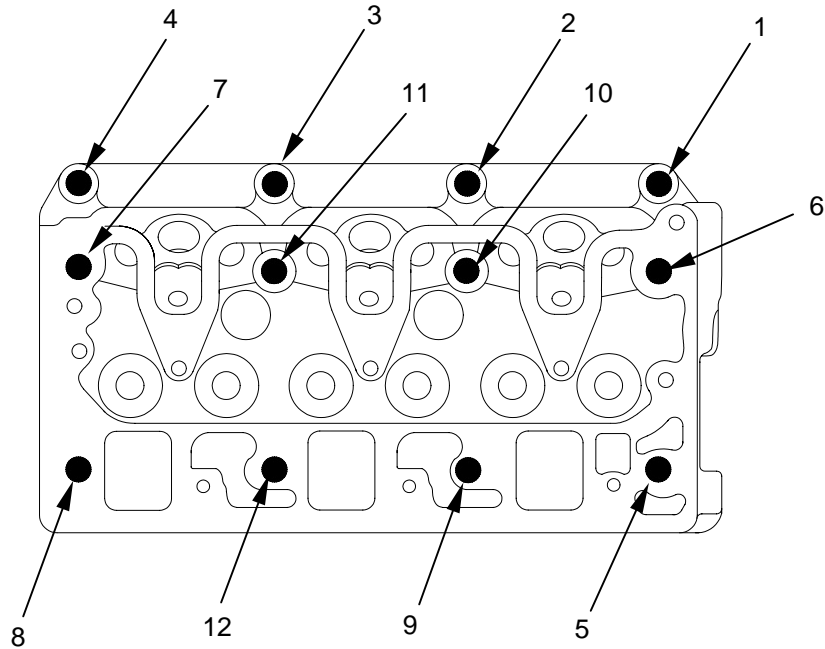

Figure 9. Cylinder Head Bolt Removal Sequence
- b. Loosen and remove cylinder head mounting bolts (**figure 9, item 1 through 12**) slowly, a half turn at a time, starting with the outside bolts, then working inwards in a circular pattern. Continue loosening the mounting bolts in sequence until the bolts are hand tight.